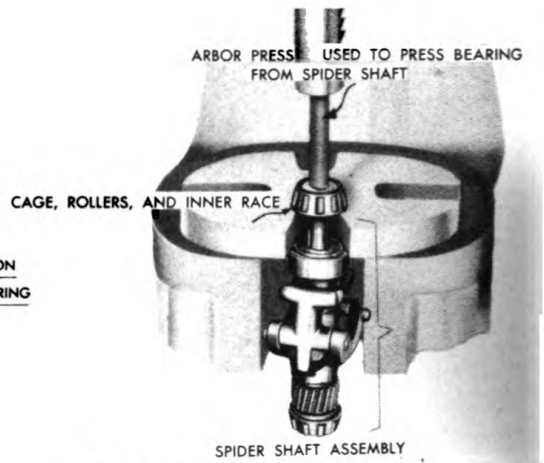

Figure 219. Pressing bearing from spider shaft.
7. Press off the tapered roller bearing with an arbor press as shown in Figure 219.